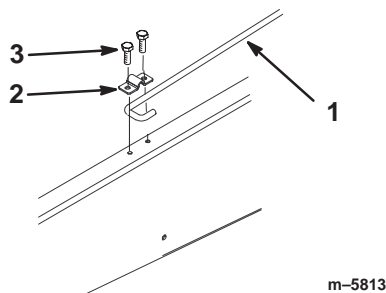

Figure 10
- Loosen the bolt securing the prop rod clip to the frame until you can slide the J-hook end of the prop rod under the clip (Fig. 10).
- Tighten the bolt and secure the other side of the clip with a new bolt (5/16 x 3/4 in.) (Fig. 10).